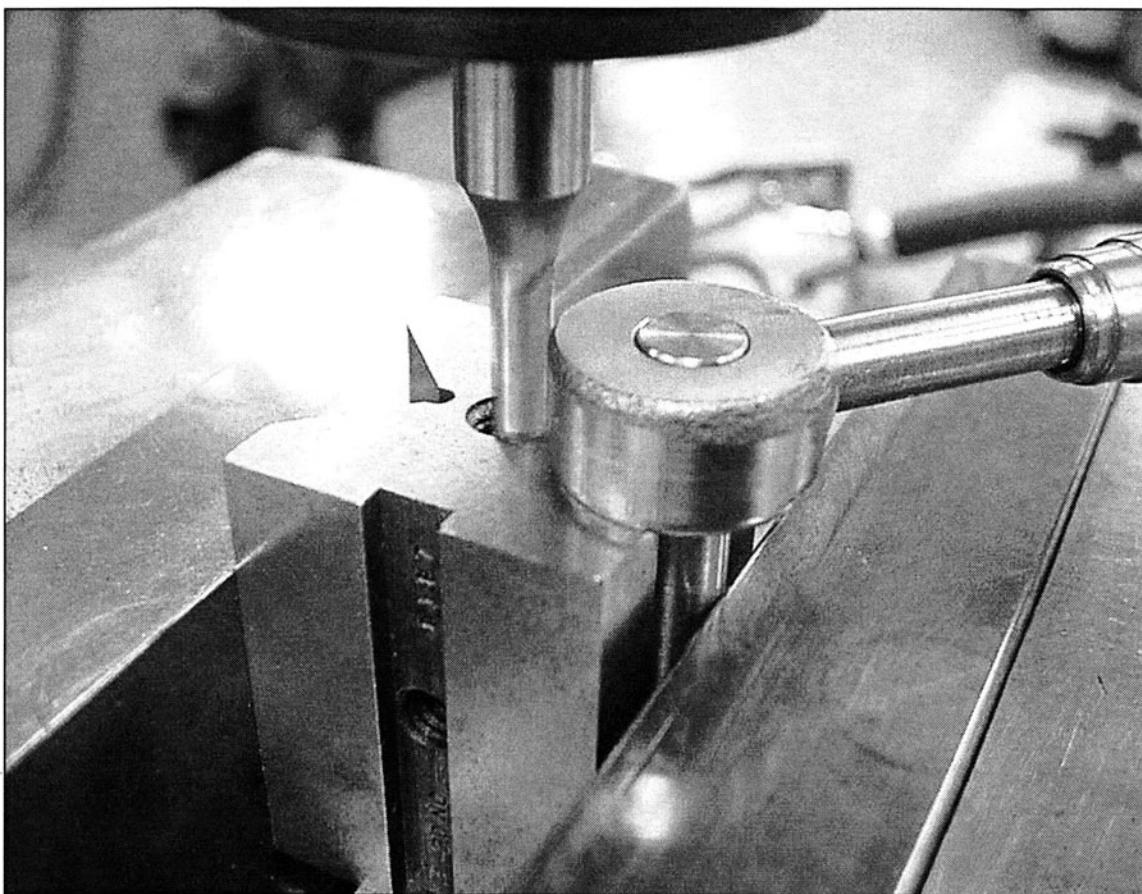

FIGURE 1-14 An arc is being machined around the end of a small part by rotating the part on a dowel pin.
38. *Cut arcs by hand in a conventional milling machine. (See Fig. 1-14)*